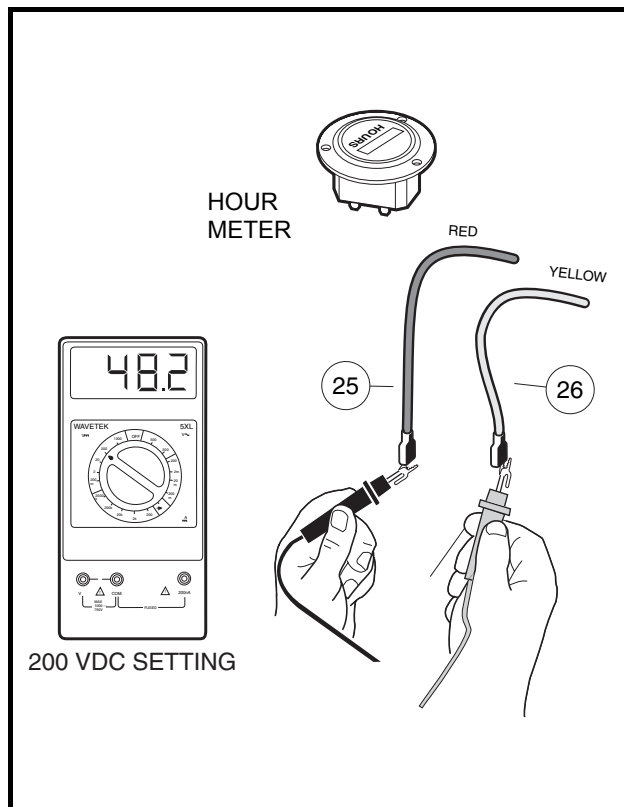

Figure 11-47 Hour Meter Voltage Test
- 2.4. Remove the red (25) and yellow (26) wires from the hour meter (**Figure 11-47, Page 11-45**).